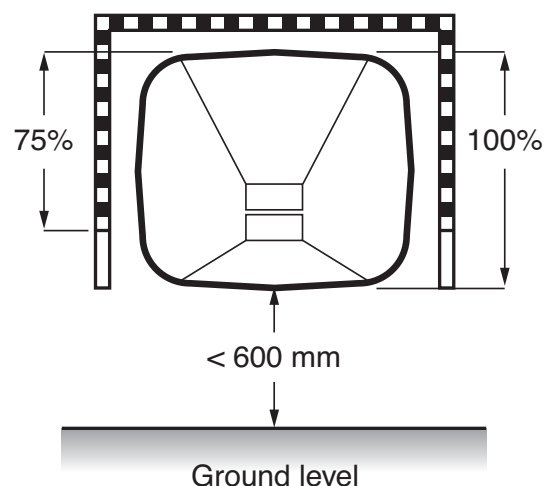

Figure 2 Position of protection devices on infeed chutes below 600 mm from ground level
If the chute has an additional extension attached to the lower edge beyond the 1200 mm of the fully enclosed chute, the total distance from the centre line of the protection device at the top edge of the infeed chute via the outermost edge of the extension to the ground (A+B) should not exceed 1600 mm. Also, for chutes of this design the protection device must be located at the **sides and at the upper edge** of the chute (see Figure 2). The protection device should operate by stopping the infeed action when pushed in the feeding direction and by stopping or reversing the infeed action when pulled against the feeding direction.
- covers a minimum of 75% of each vertical projection at the sides of the chute and 100% of the horizontal projection at the top or bottom of the chute as appropriate for the machine according to the height of the outermost lower edge, ie below 600 mm or 600 mm and higher (see Figures 2, 3 and 5);
- does not require a force greater than 150 N on the horizontal part of the device(s) and 200 N on any point of the 75% projection as shown in Figures 2, 3 and 5 (this can be measured using a spring balance - 10 N equals approximately 1 kg of pulling force);